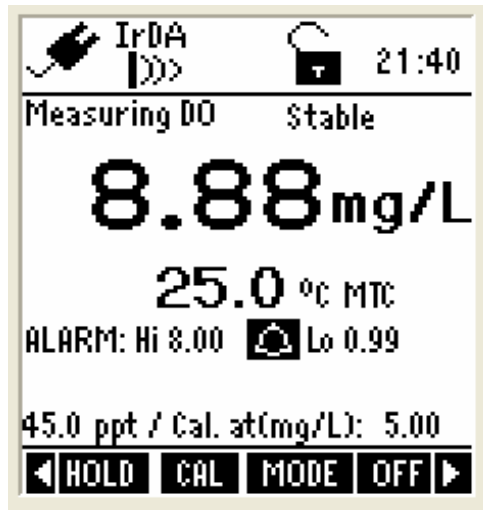

Figure 33 : Concentration calibration
8. Press **ESC (F4)** to go to measurement mode. The meter shows the concentration reading of the solution in measurement mode (Figure 33).